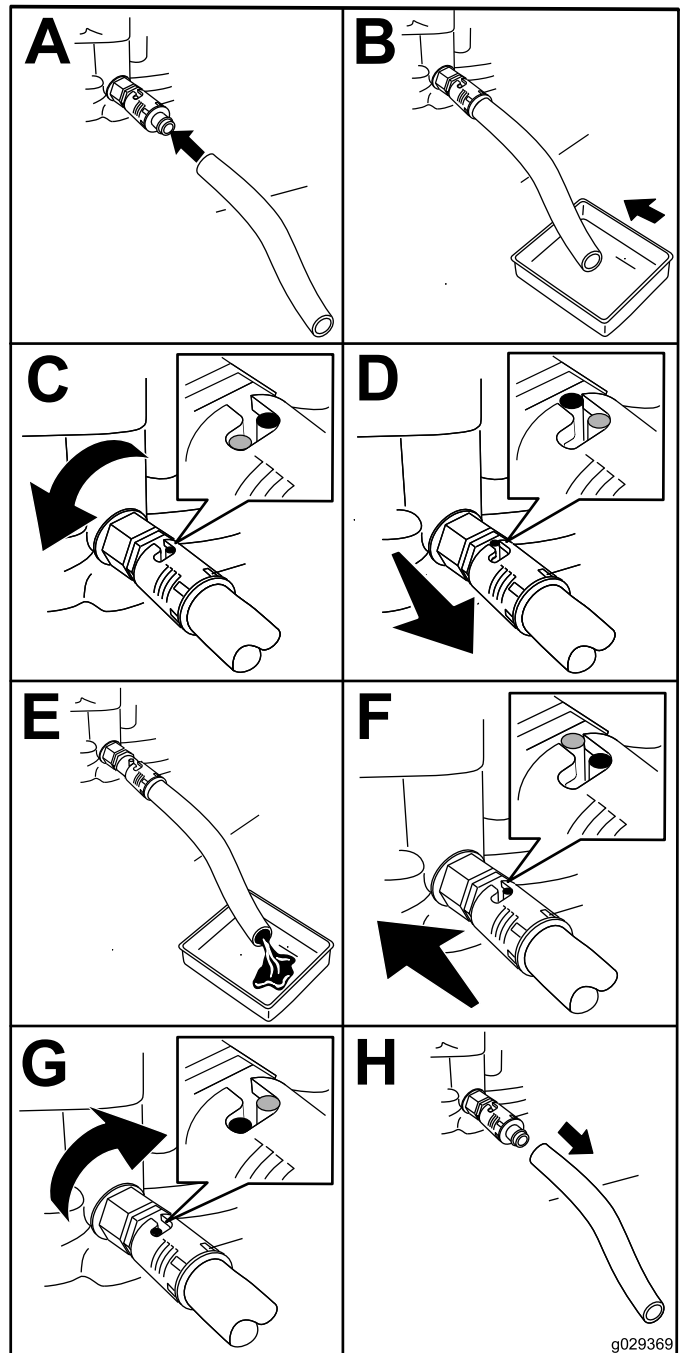

Figure 41
- Drain the oil from the engine (Figure 41).